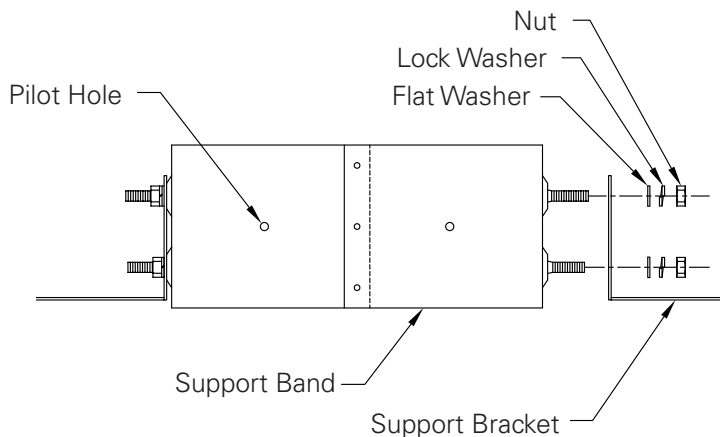

FIGURE 64
Slide the Support Band around the chimney and align over framed opening. Secure to casing with four (4) sheet metal screws and assemble brackets. **(Figure 64)** Nail the brackets to the framing using a minimum of (2) nails or screws per bracket.